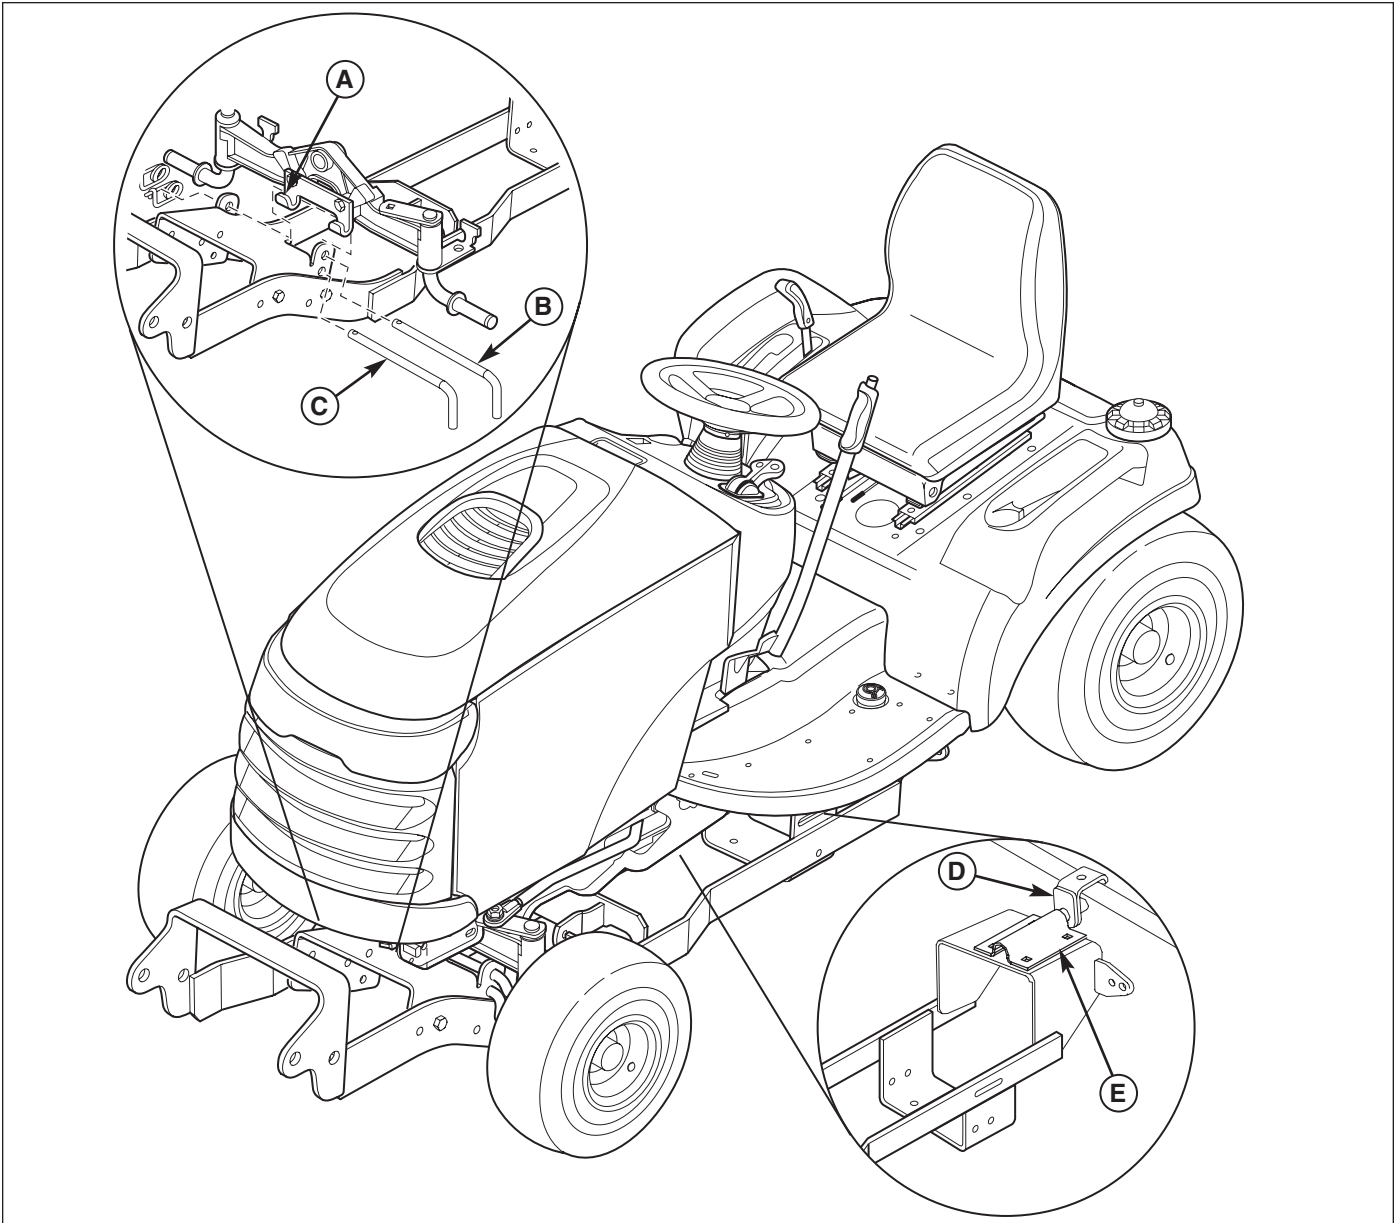
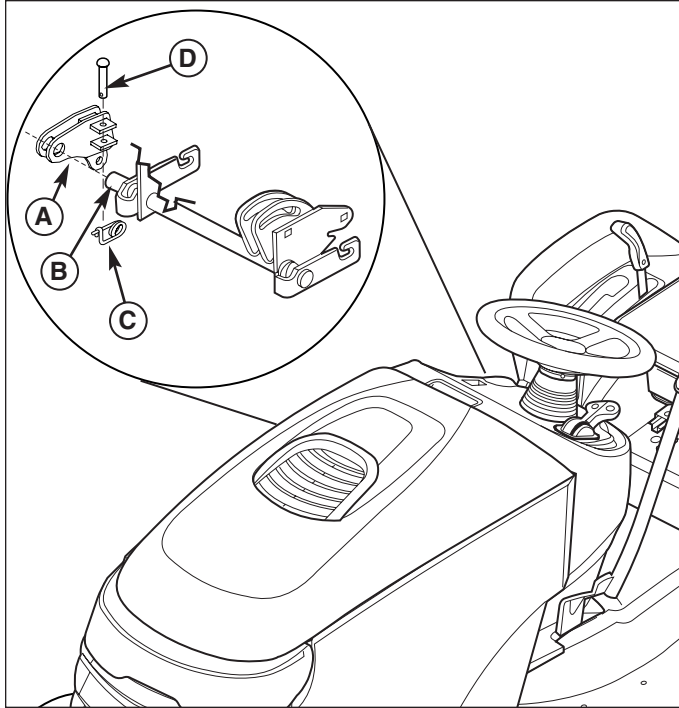
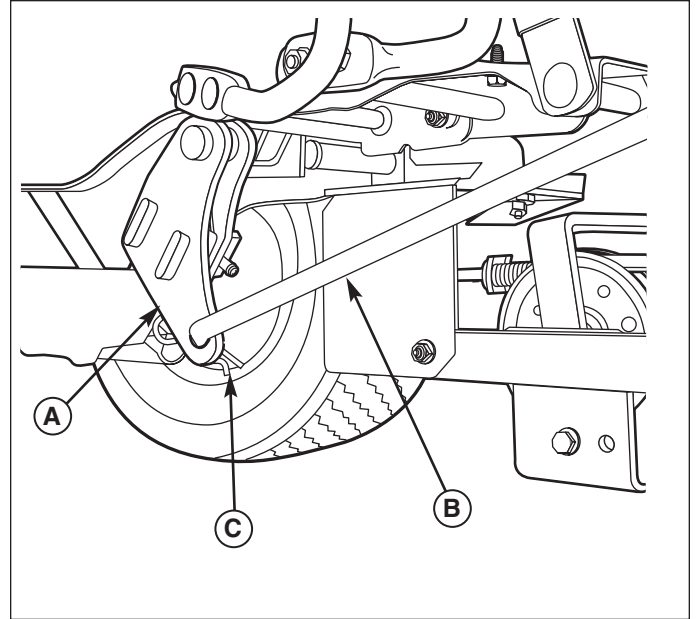

Figure 9. Install Hitch
Figure 10. Install Lift Lever
Figure 11. Install Lift Rod - All Models
2. Raise the rear of the hitch and place the hook (C) over the lift shaft.
3. Connect the front of the hitch to the tractor J-hooks (A, Figure 9) using the hitch rod (B) and a safety clip in the top holes of the push bar latch.
4. Secure the front of the hitch to the tractor by attaching the hitch rod (C) and a safety clip in the bottom holes of the push bar latch.
5. Push the clamp plate (D) backwards until it is snug against the lift shaft. Tighten the clamp plate hardware (E).
1. Slide the lift lever (A, Figure 10) onto the end of the tractor lift shaft (B) under the right side footrest.
2. Use the tabs on the lift lever (A) to capture the tractor lift arm. Secure in place with a clevis pin (D) and safety clip (C).
3. Insert the rear of the lift rod (B, Figure 11) into the bottom of the lift lever (A). Secure with a clip (C).
2. Secure the front of the hitch to the J-hooks using the hitch rod (A) and (B) (Figure 9).
3. Install the downward pressure lock plate (E) OR place the lift link (D) in snowthrower position.
4. Install the lift lever extension (C).
5. Install the lift rod and attachment (Figure 11).